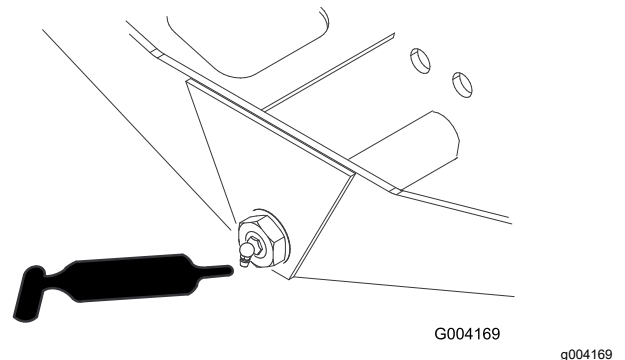

Figure 75
- Axle-steering pivot (1)—Figure 75